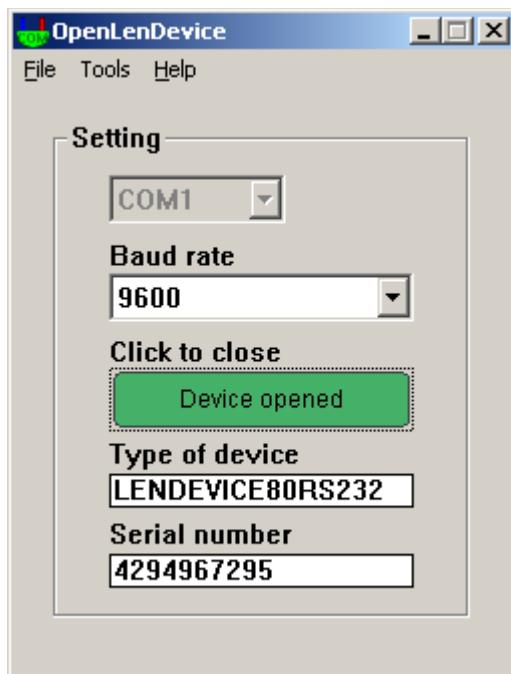

Fig. 6. OpenLenDevice program.
The OpenLenDevice program, provided with the software on CD, serves to turn on the LENDEVICE80RS232 device and it is shown on Fig. 6.
5. If the points 1 – 4 were done correct, the button should change to green colour (like on Fig. 6) and on the device should light a LED diode.